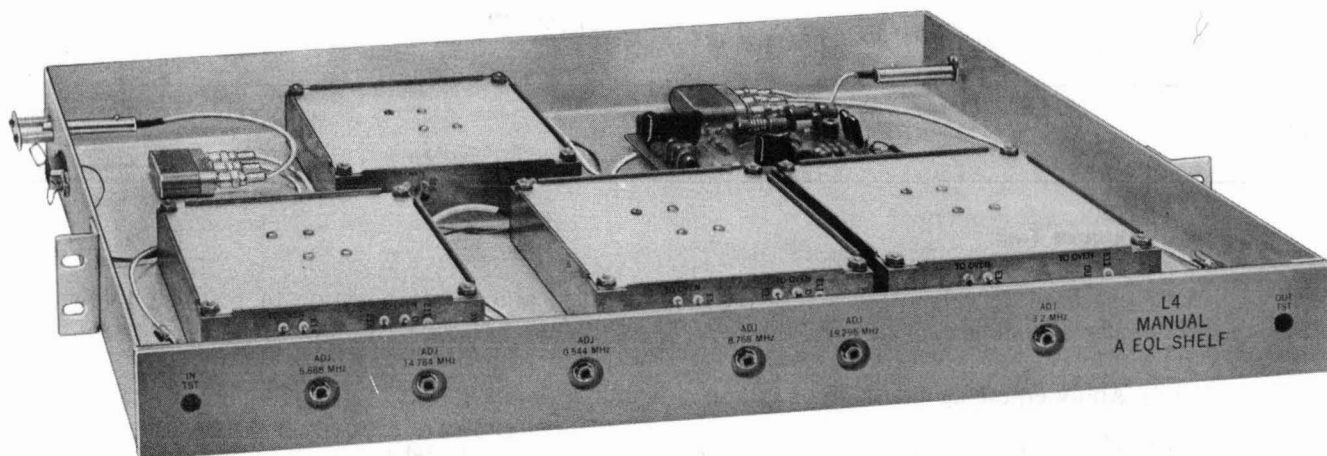

Fig. 11—Manual A Equalizer J68877ED
D. Manual A Equalizer J68877ED (Fig. 11)**Replacement Procedure**